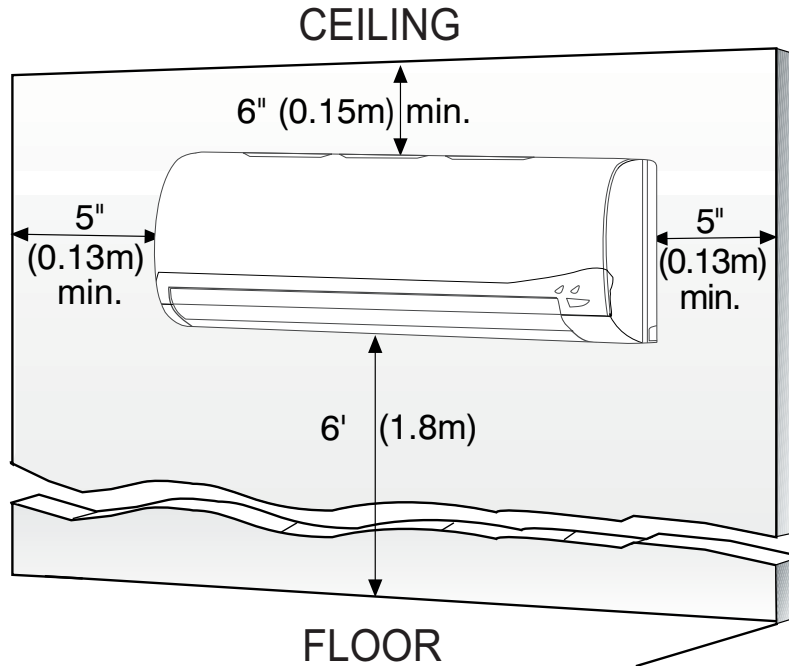

Fig. 3 – Indoor Unit Clearance
Allow sufficient space for airflow and servicing unit. See Fig. 3 for minimum required distances between unit and walls or ceilings.
- A location which provides appropriate clearances as outlined in Fig. 3.
2. The mounting plate should be located horizontally and level on the wall. All minimum spacings shown in Fig. 3 should be maintained.